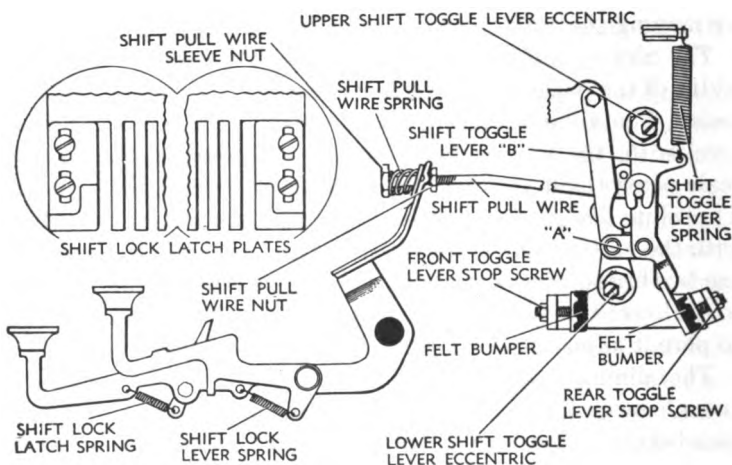

Figure 199. — Side view of the shift mechanism.
4. Adjust the front shift toggle lever stop screw until the toggle links *A* and *B* are in a straight line when the shift key is depressed, but not locked by the shift lock key. (See figure 199.)
The shift lock latch plates must be even, so that when both shift lock keys are depressed and locked at the same time, they will release evenly. If you release the right shift key lock, the left one should release directly afterward. (See figure 199.)